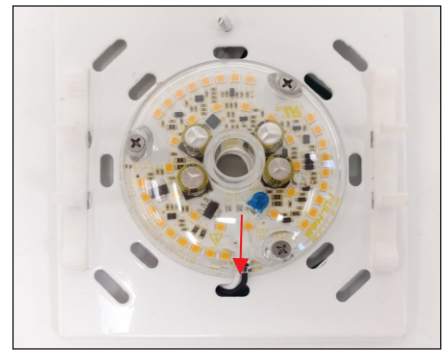

Figure 4
4. Feed line voltage cables from the DirectAC Engine (A) through one of the holes found in the luminaire. See figure 4.